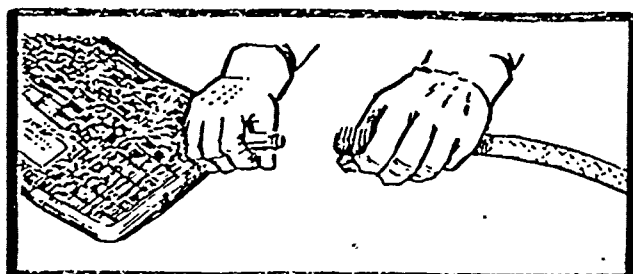

FIG. 28
4. Select bag and connect an extension hose to the inlet nipple protruding from one corner of the bag (Fig. 28).